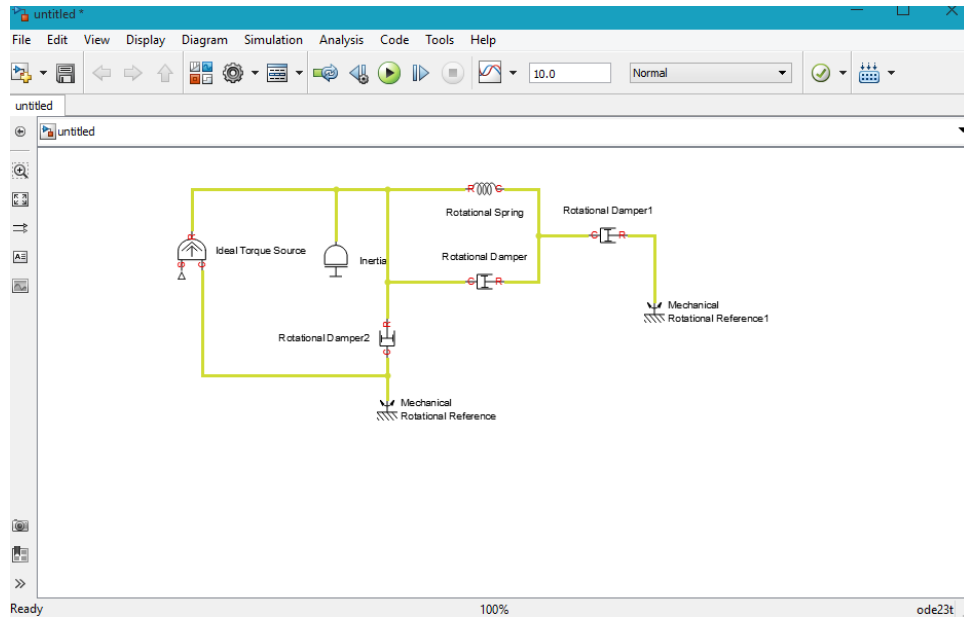

Figure 3.17: The block diagram after add the Force, step 7
18. To add the representation of the force acting on the mass, open the **Simscape > Foundation Library > Mechanical > Mechanical Sources** library figure 3.16, and add the Ideal Torque Source block to your diagram as figure 3.17.